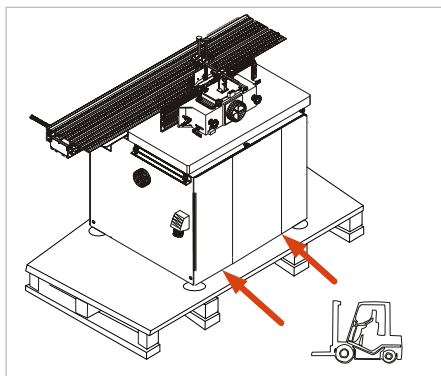

Figure 5: Setting down with a forklift truck
- Then lift the machine off the pallet with the forklift truck and feed the forks as shown in ⇒ Figure 5.